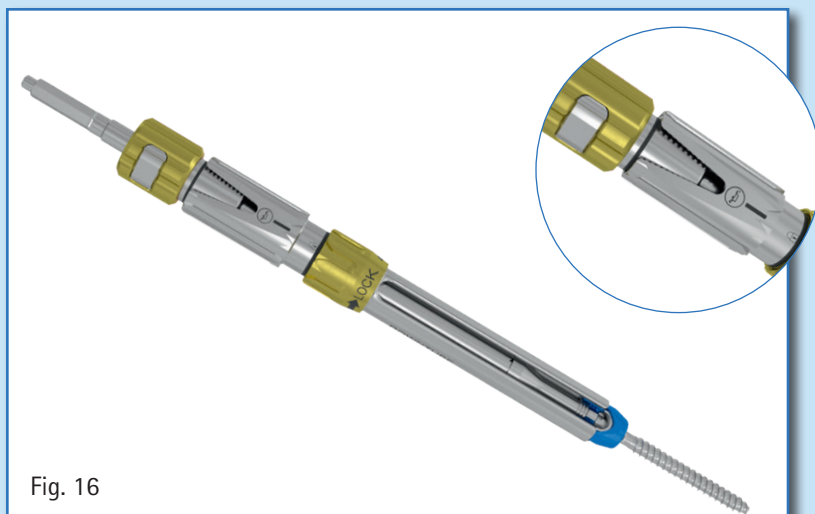

Fig. 16
1. Insert the Screwdriver (SZ381R) into the Downtube while ensuring the tip of the Screwdriver is aligned to the screw body. (Fig. 16)